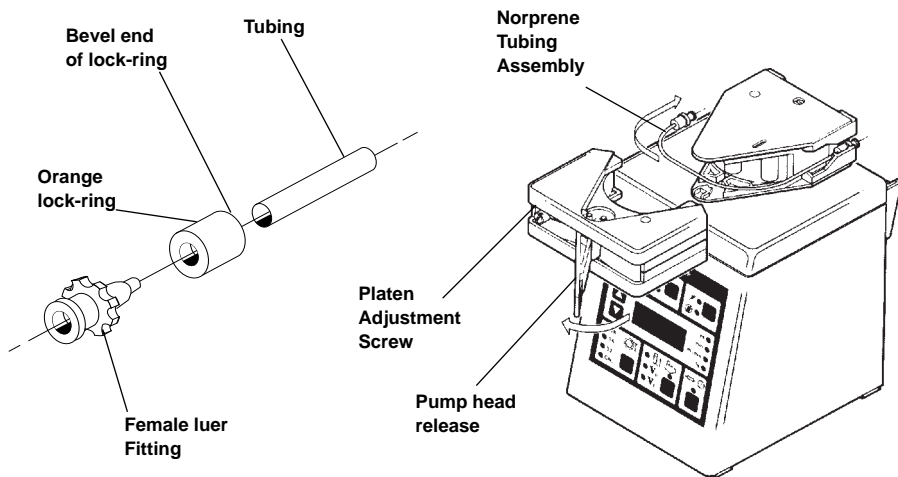

Fig. 4. Pump head and pump tubing assembly.
1. To plumb the pump, use the pre-cut 1.6 mm ID. Norprene tubing included with the pump. Slip an orange lock ring over each end of the pre-cut tubing with the bevel pointed away from the end, as illustrated in Figure 4. Insert a barbed female luer fitting into each end of the pre-cut tubing until the tubing reaches the flange. Slide the lock ring towards the luer fitting and push it snugly against the fitting to lock the tubing.
The pump platen is a metal screw located on the front left corner of the pump head (Figure 4). The pump platen should always be adjusted when new tubing has been installed in the pump head to insure a smooth and accurate flow rate.